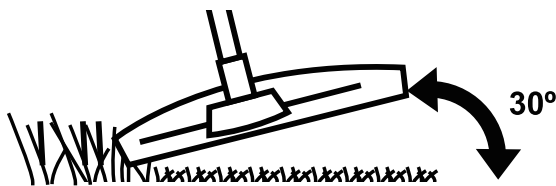

Fig. 16
3. Hold the trimmer head just above the ground at an angle of approximately 30° (Fig. 16).